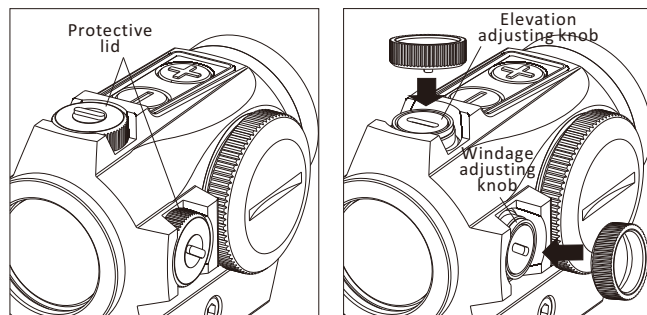

Fig 5
1. On top of sight is the elevation adjusting turret, windage adjusting knob is on the right side (see Fig5). The sight has been factory adjusted for approximate zero.
2. The built in screw driver tool on the protective cap can be used for zeroing adjustment(see Fig5). See label inside cap.